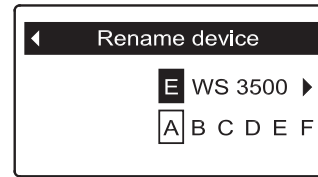

FIG. 72
4. Press the SELECT (○) button to display the Rename device screen (See Figure 72).